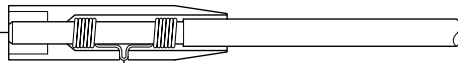

Fig. 8
Step 4 Check the end of the electrode is flush with the end of the probe tip (Figure 8).
- Push the probe tip/spring assembly onto the electrode, turning at the same time, until the end of the probe rod is level with the end of the tip shroud (see Figure 8 on page 9). The tip/spring assembly will turn easily in one direction only.